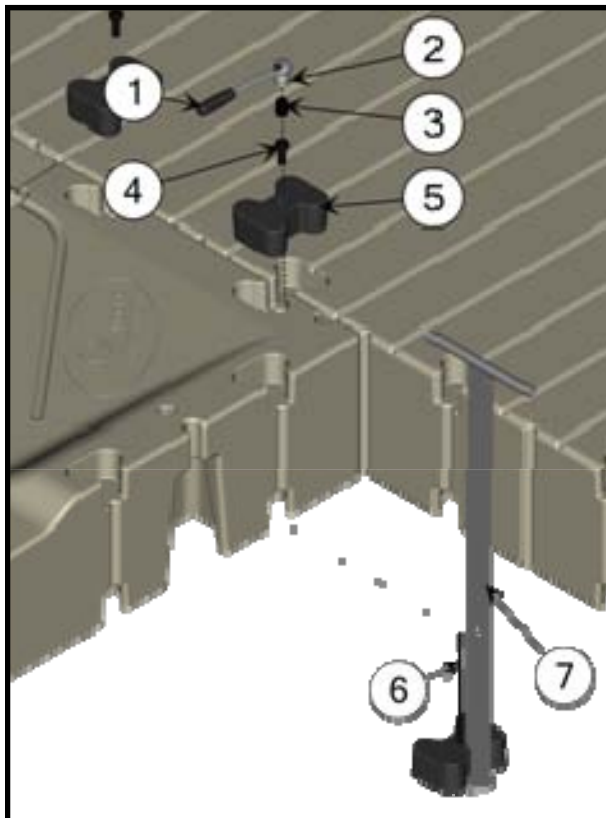

Figure 6.
4. Align the EZ Dock dock sections and the EZ BoatPort so coupler pockets are adjacent to each other (Figure 6).
5. Using the in-water installation tool (Item 7), insert the coupler and bolt assembly into the bottom pocket with the bolt pointing upward (Figure 6).